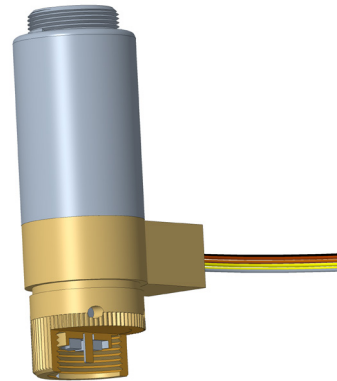

FIGURE 6-11
1. Check the actuator pin to ensure it is in the non-fired position by fully screwing in the reset tool supplied and ensuring the pin is retracted. See Figure 6-11.